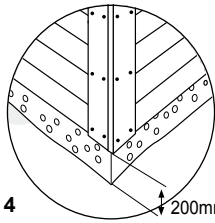

Figure 4
- Install James Hardie® products with a minimum 200 mm (8") clearance to the finished grade on the exterior of the building complying with Part 9.27.2.4 of the NBC (fig. 4).
- When installing James Hardie products all clearance details in figs. 4, 5, 6, 7, 8 & 9 must be followed in accordance to your HardieZone.